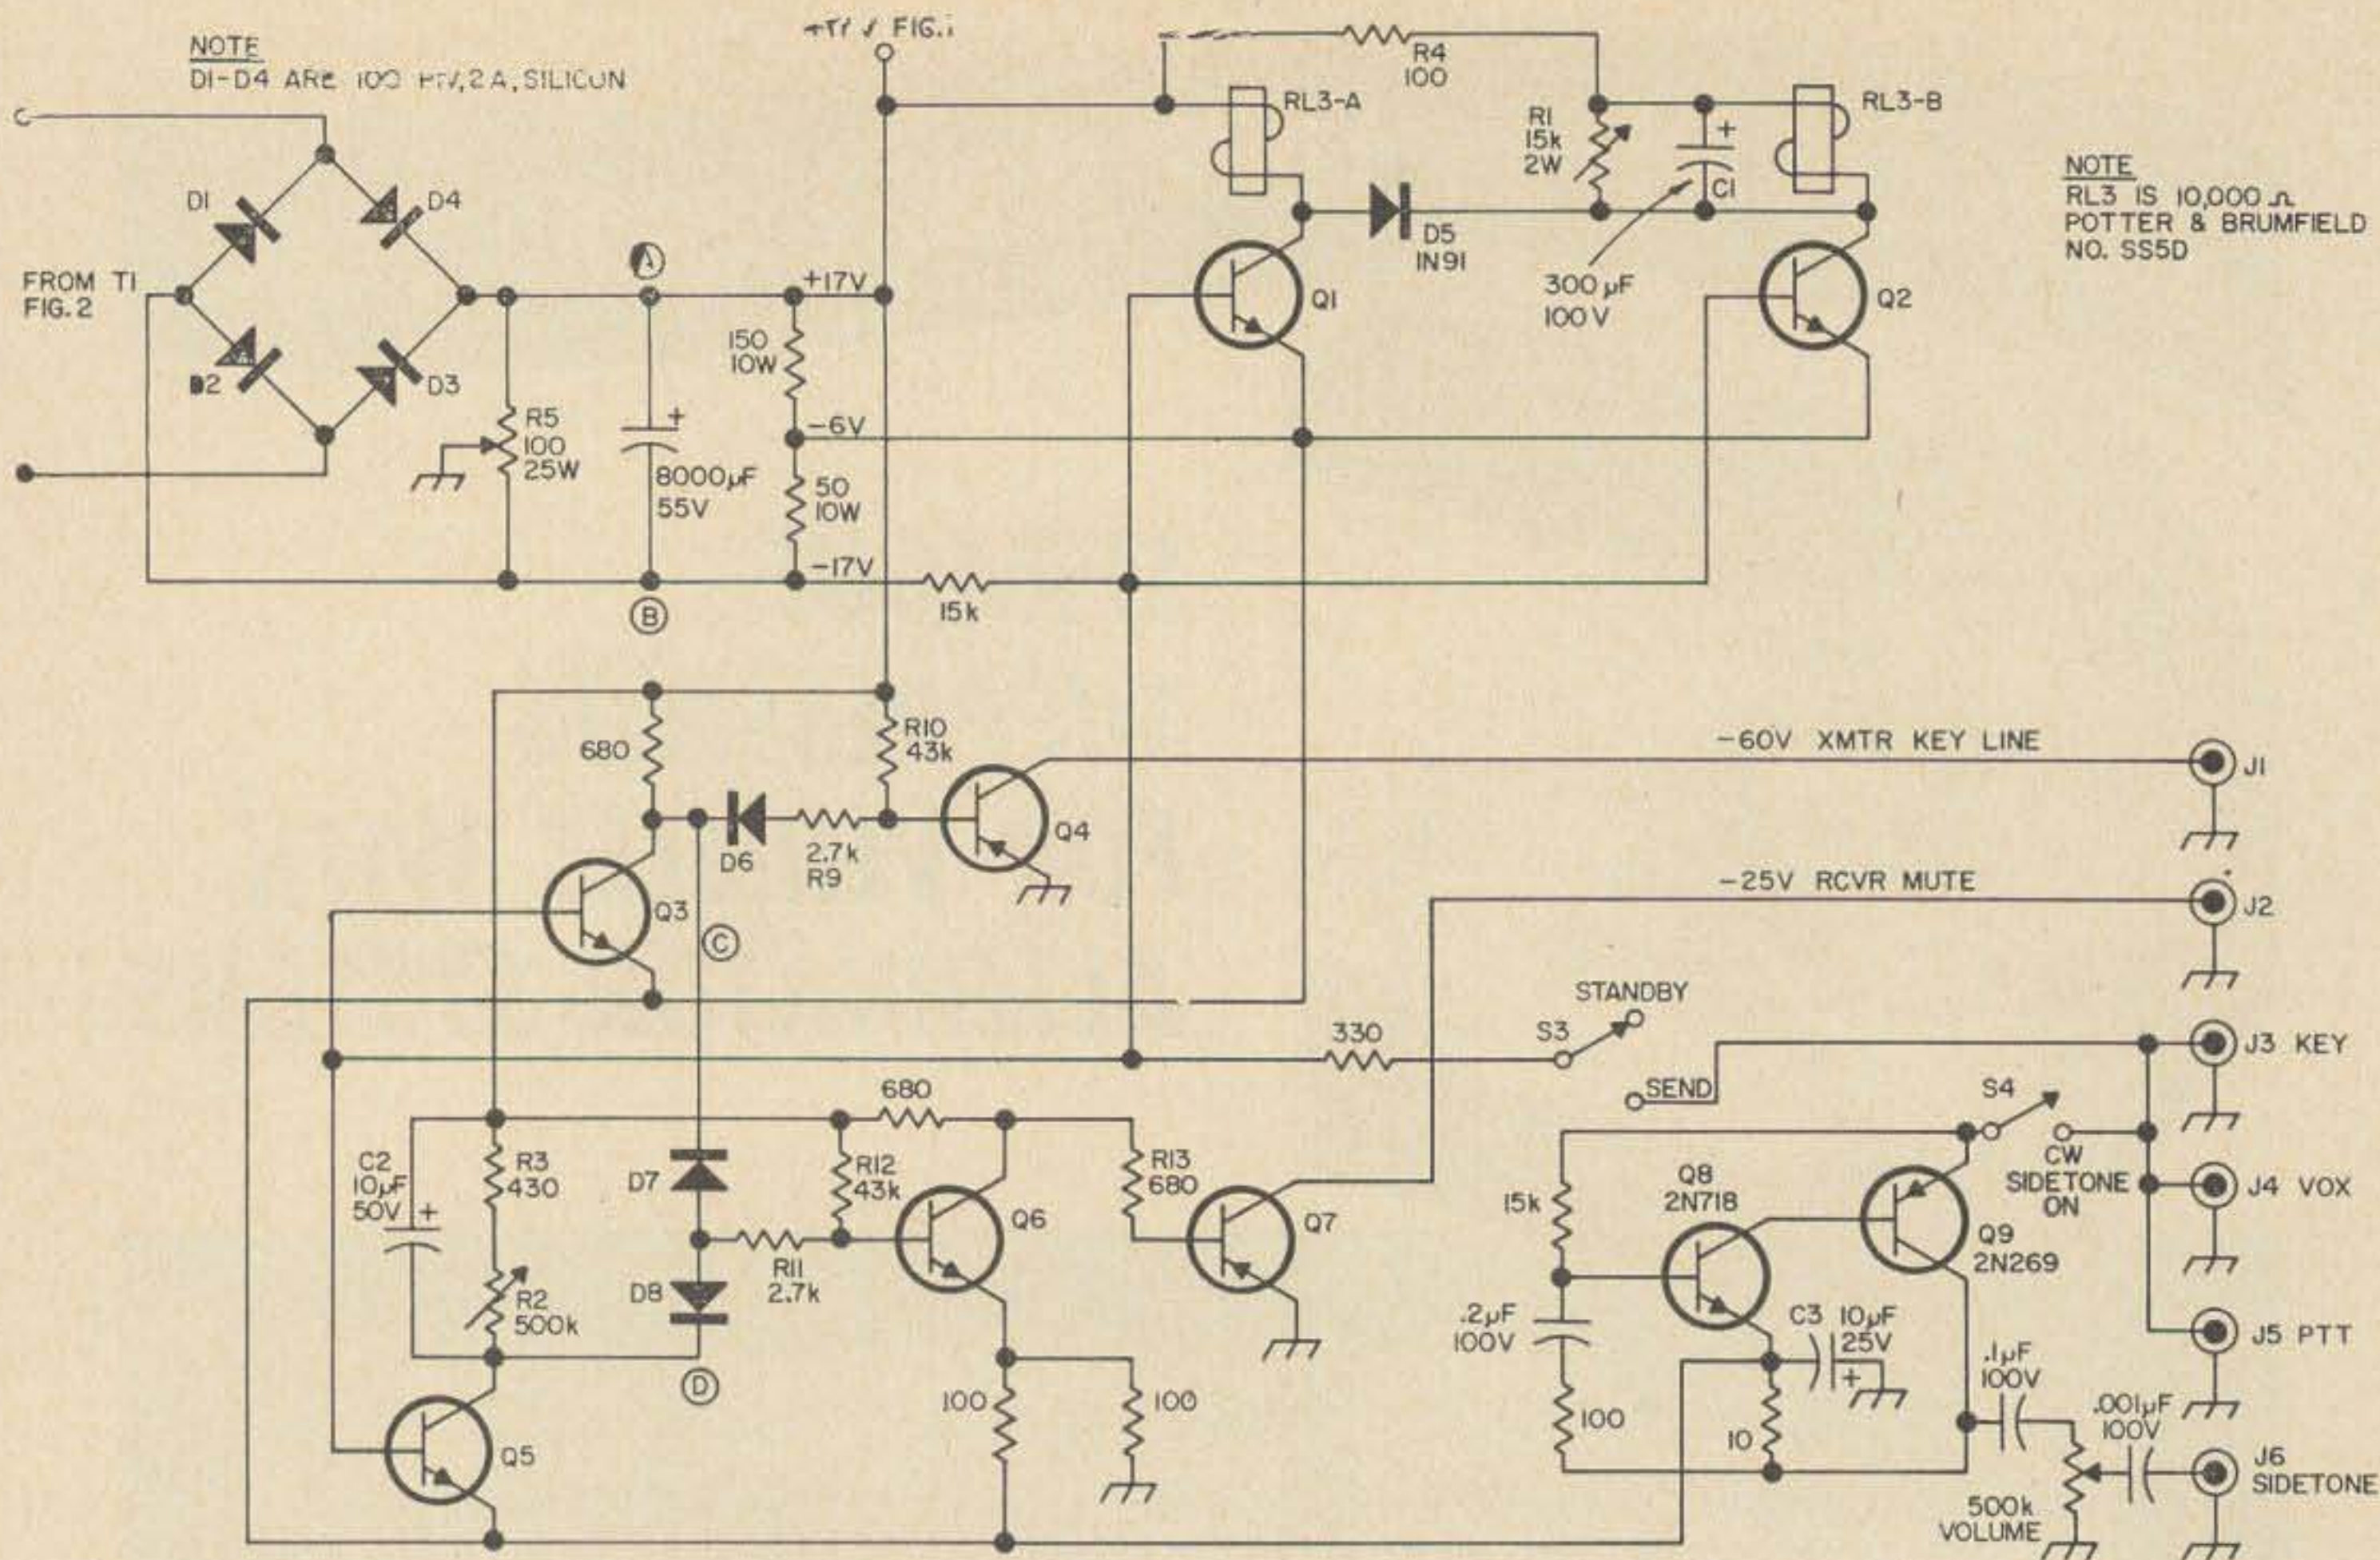
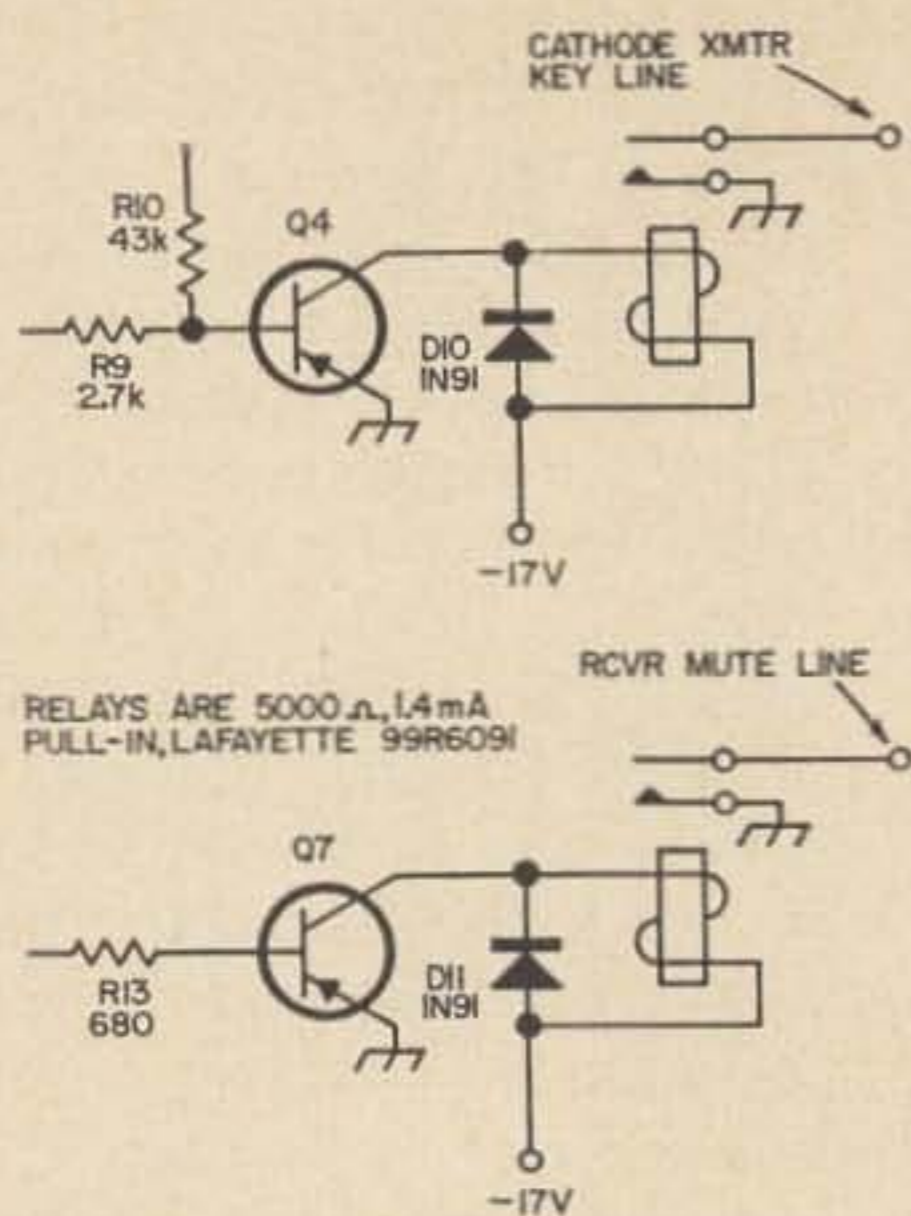

Fig. 3. Transistor switching circuits and code monitor.
Fig. 5. Alternate key and mute circuits.
Fig. 5 shows an alternate method of keying a transmitter or muting a receiver. This method would have to be used if your transmitter has cathode keying or if your receiver has a positive mute line. Of course a combination of Fig. 5 for the transmitter and Fig. 3 for the receiver could be used, or vice versa.
The relays shown in Fig. 5 are ultra sensitive radio control units that pull in with only 1.4 mA coil current. If a less sensitive relay is used it will be necessary to increase the voltage fed to the relay. Diodes D10 and D11 prevent ringing in the circuits when Q4 and Q7 are cut-off. At the instant the circuit thru the relay coils is cut-off the voltage in the coils will spike to a very high value and possibly ruin Q4 or Q7. In any case this spike will generate electrical noise.
- D10-D11— Prevent ringing in relay coils at the instant Q4 or Q7 in Fig. 5 are cut-off.